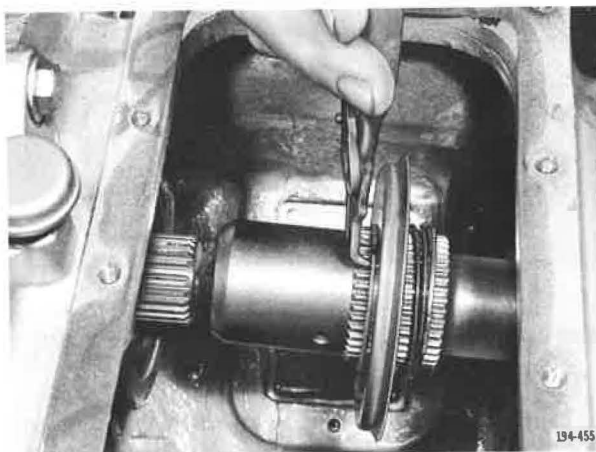

Figure 5-99. Installing Oil Slinger Retaining Front Snap Ring
13. While advancing countershaft, install oil slinger retaining spring on shaft. With flared lip of slinger toward the rear, install slinger on countershaft splines. Compress retaining spring with slinger and install slinger front snap ring in groove, provided to retain slinger. See Figure 5-99. Where power take-off gear is incorporated, position gear on countershaft splines, then install gear front snap ring in groove provided in shaft.